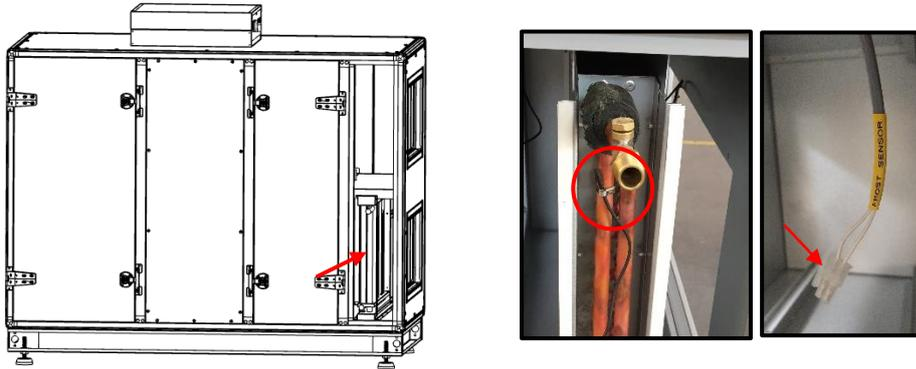

Fig. 43
3. Place the water after heater in the unit and attach the temperature sensor on the water outlet pipe with the metal cable tie. Connect the temperature sensor and frost sensor cable connector each other. (metal cable tie and sensor are included in scope of water after heater delivery) (Fig. 43)